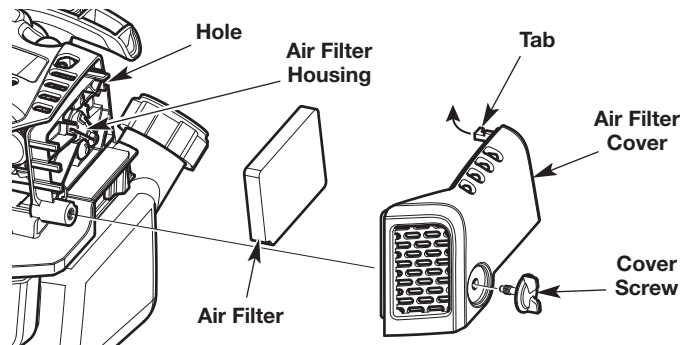

Fig. 37
1. Unscrew the cover screw completely. Swing the air filter cover to the right. Remove the air filter cover from the air filter housing (Fig. 37).
2. Remove the air filter from the air filter housing (Fig. 37).
6. Reinstall the air filter in the air filter housing (Fig. 37).
7. Insert the tab on the air filter cover into the hole on the air filter housing. Swing the air filter cover to the left. Push the air filter cover back onto the air filter housing. Insert the cover screw into the air filter cover. Tighten the cover screw to secure the air filter cover (Fig. 37).